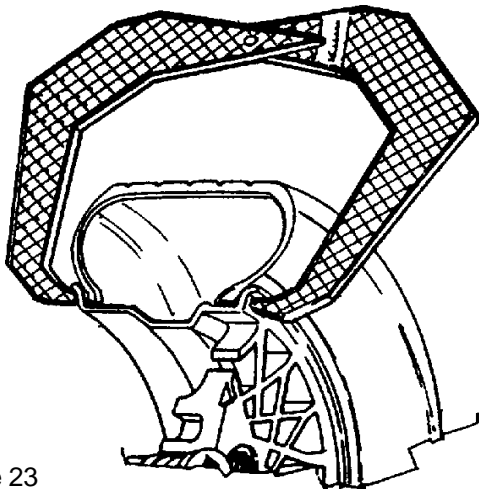

Figure 23
**4.5.2. Measure rim width** using rim width calipers. Measure wheel where corrective clip-on weight would be applied, Figure 23. Enter the measured width by rotating the width/offset knob until the desired value appears in the center display.